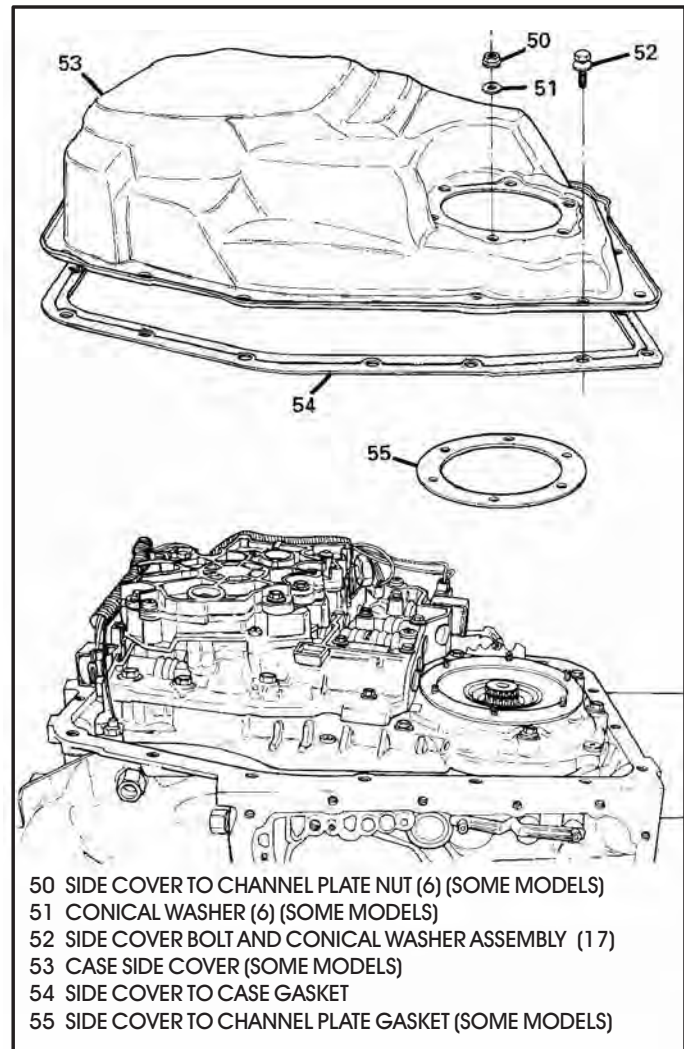

Figure 211
89. Install new side cover to case and side cover to channel plate gaskets, as shown in Figures 211 and 212.
90. Install side cover and 17 side cover to case bolts, as shown in Figures 211 and 212.
- Special Note:** Some models are equipped with a stamped steel side cover with retaining nuts and conical washers, as shown in Figure 211. Other models are equipped with structural (cast aluminum) side covers that do not use the retaining nuts and conical washers, as shown in Figure 212.
91. Install the six nuts and conical washers onto side cover, if equipped (See Figure 211).
92. Torque the seventeen side cover to case bolts to 11 N·m (98 in.lb.) (See Figure 211).
93. Torque the six side cover to channel plate bolts to 8 N·m (71 in.lb.) (See Figure 211).